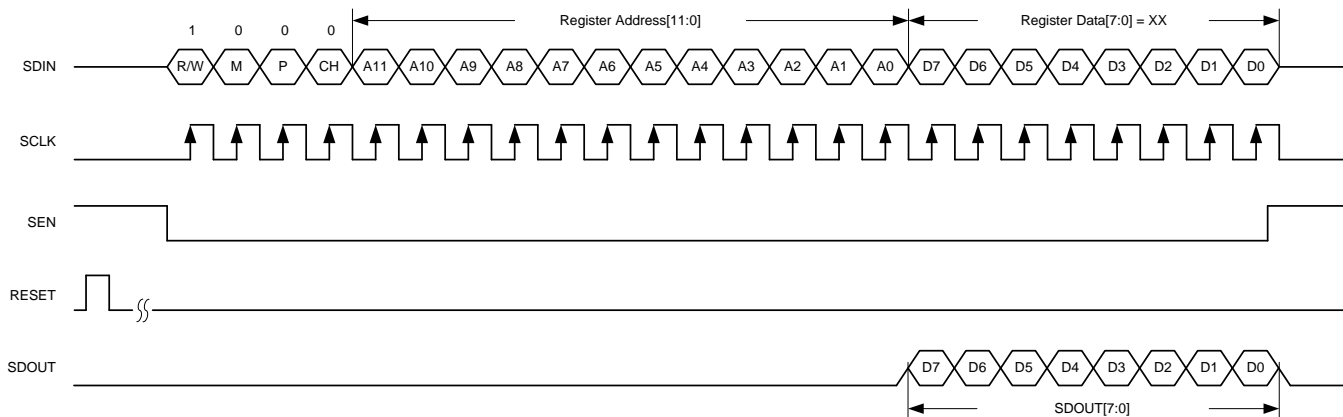

Figure 70. Serial Register Read Timing Diagram
4. Reading back the register content on the SDOUT pin, as shown in Figure 70. When a page is selected, multiple read backs from the same page can be done.